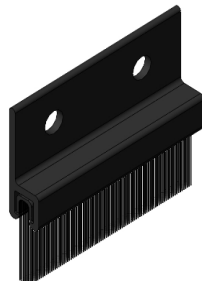

Figure 30:
- After all panels have been adjusted plum and level and panels close and lock, open panels and install air barriers. Air barriers are attached to the bottom (Figure 30) and top (Figure 31) of all sliding interlockers and secured with (2) #6 x 3/8" long, Tek screw.